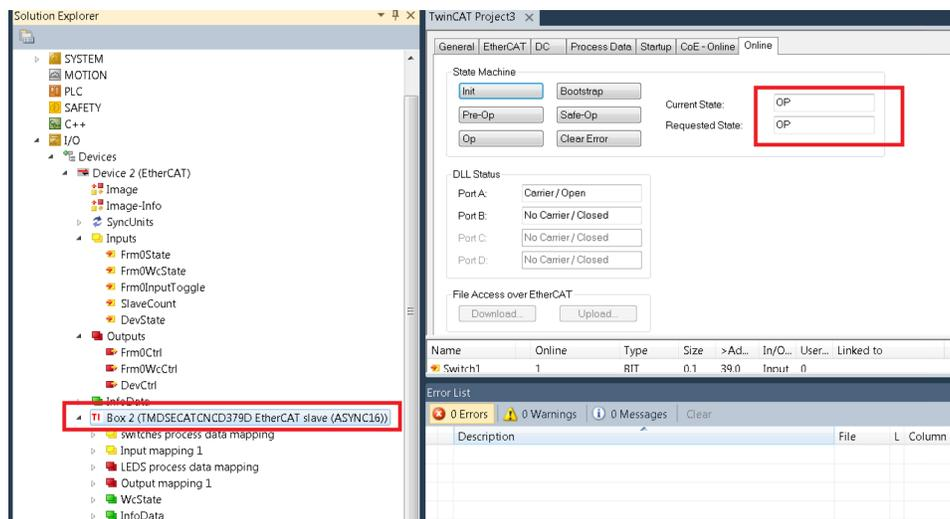

Figure 28. Rescan Network
- Rescan the network (see Figure 28).